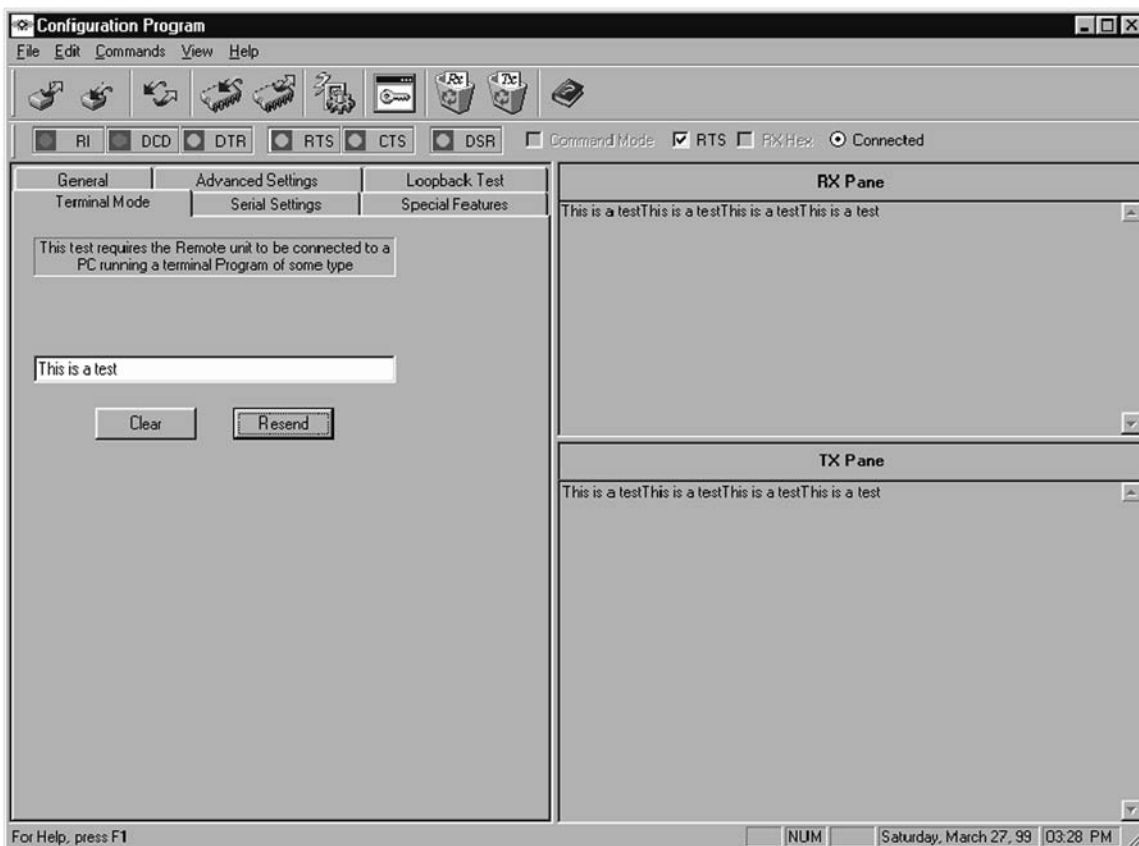

Fig. 17 — Configuration Manager, Test Mode
1. Open the Configuration Manager. See Fig. 17.